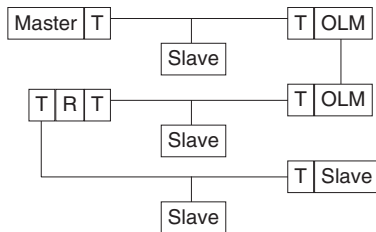

Figure 2.1: Example: bus segments with bus termination
**Example**(view Figure 2.1 on page 14): one line with 1 master, 4 slaves, one fiber optic link, 1 repeater (R), 3 segments, and 6 bus terminations (T): Master (T) – Slave (T) – OLM – fiber optic link – OLM (T) – Slave – (T) Repeater (T) – Slave – (T) Slave.